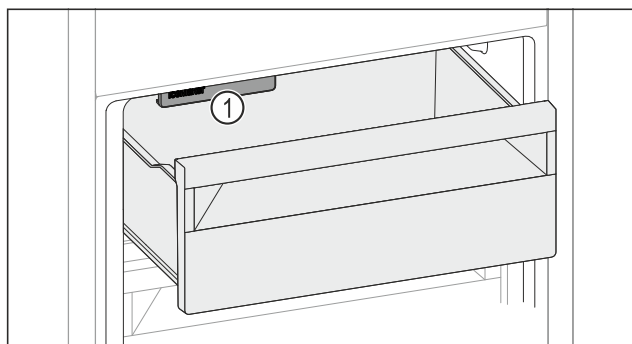

Fig. 56
- ▶ Observera IceMaker Fig. 56 (1).